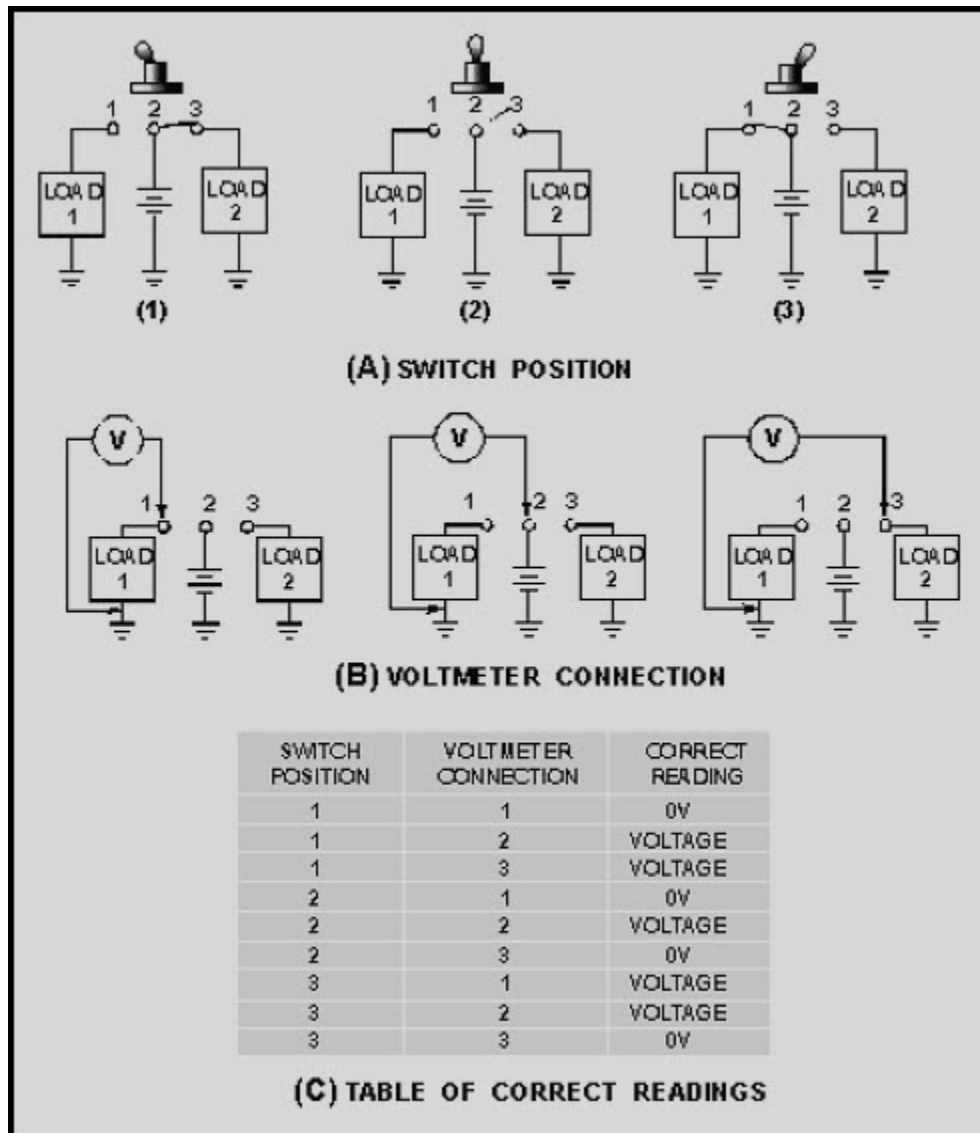

Figure 3-16 Table of correct readings
Figure 3-16(A) shows a switch connected between a power source (battery) and two loads. In figure 3-16(B), a voltmeter is shown connected between ground and each of the three switch terminals while the switch is in position 1. Figure 3-16(C) is a table showing the switch position, voltmeter connection, and the correct voltmeter reading.
With the switch in position 1 and the voltmeter connected between ground and terminal 1, the voltmeter should indicate no voltage (0V). When the voltmeter is connected to terminal 2, the voltmeter should indicate the source voltage. With the voltmeter connected to terminal 3, the source voltage should also be indicated. The table in figure 3-16(C) will show you the correct readings with the switch in position 2 or 3.